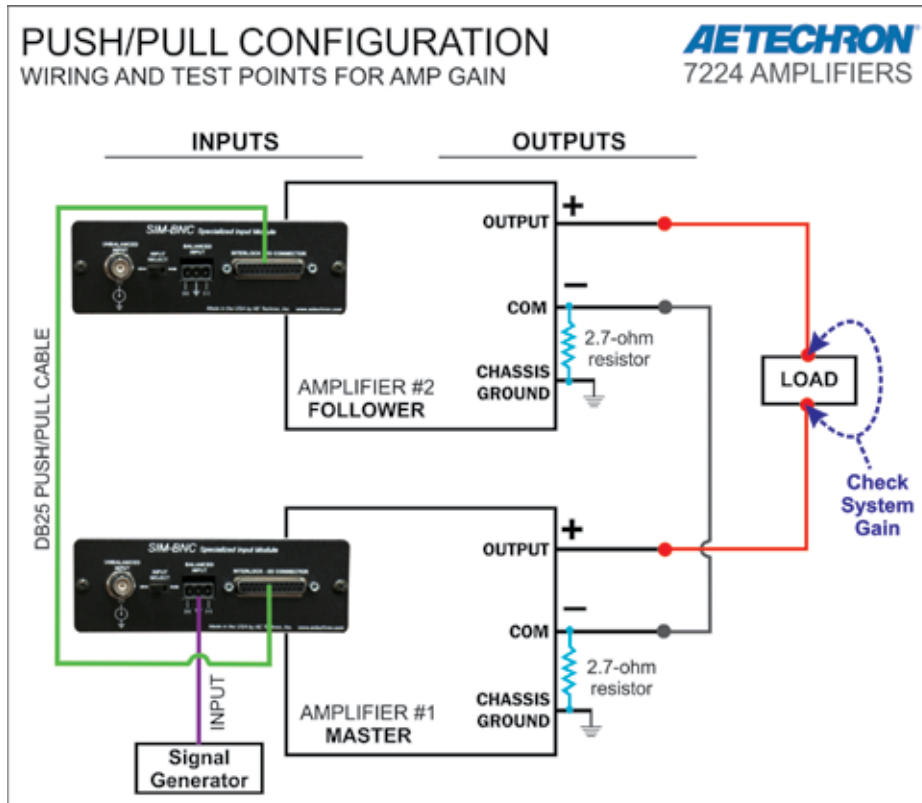

Figure B.2.14 – Measuring System Gain
4. Apply a sine wave of 5 Vrms at 100 Hz at the Master amplifier input. Using a voltmeter, measure across the system load to verify an output from the system of approximately 200 Vrms. See **Figure B.2.14**.